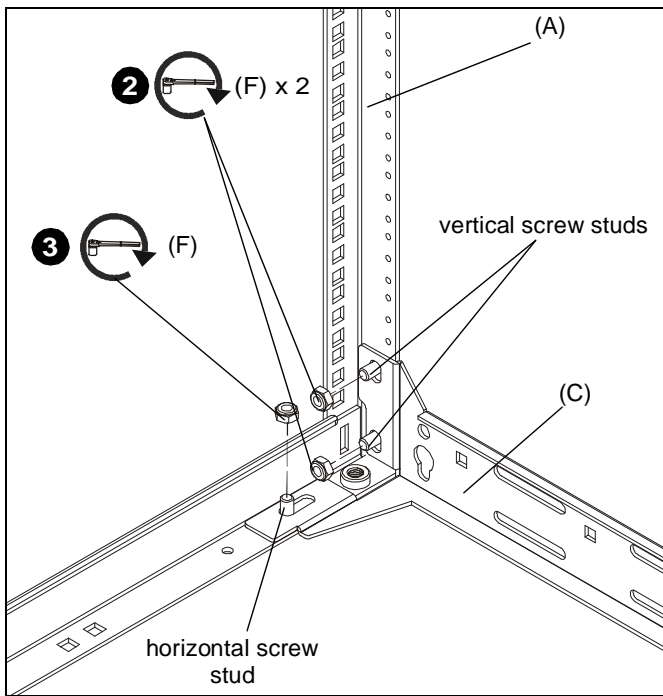

Figure 1
1. Position brace (C) over screw studs on left frame (A). (See Figure 1)
2. Thread two 1/4-20 hex nuts (F) over vertical screw studs to secure brace (C) to left frame (A). (See Figure 1)
3. Thread 1/4-20 hex nut (F) over horizontal screw stud to secure brace (C) to left frame (A). (See Figure 1)